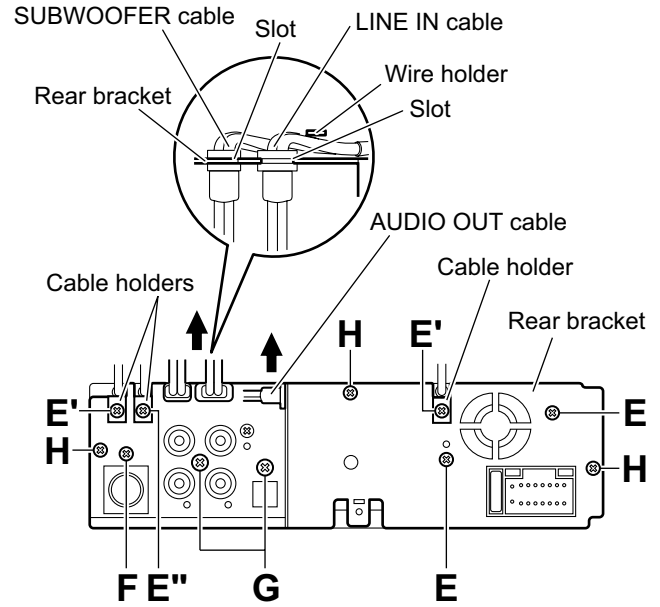

Fig.6
### 3.1.5 Removing the rear bracket (See Fig.6)
### 3.1.6 Removing the main board (See Figs.6 and 7)
- From the back side of the main body, remove the three screws **H** attaching the main board. (See Fig.6.)